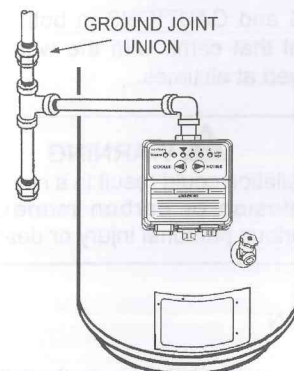

FIGURE 5.
7. Disconnect the gas supply piping to the water heater preferably at the ground joint union (if installed), see Figure 5.
8. Disconnect all the piping from the Intelli-vent™ Thermostat Control, see Figure 5.